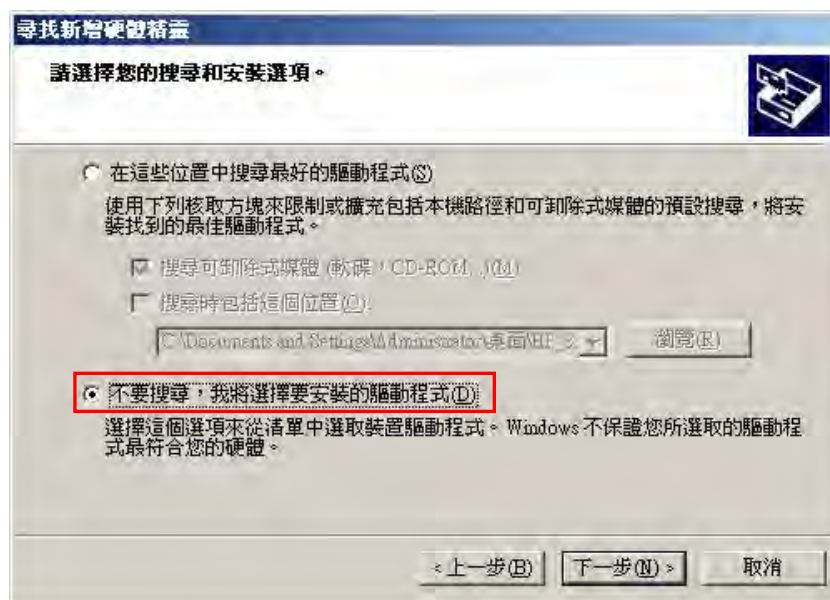

Figure 2.22
As shown in Figure 2.22, the system asks you to choose your search and installation options. Choose "Don't search. I will choose a driver to install (D)", then click on "Next" to continue.